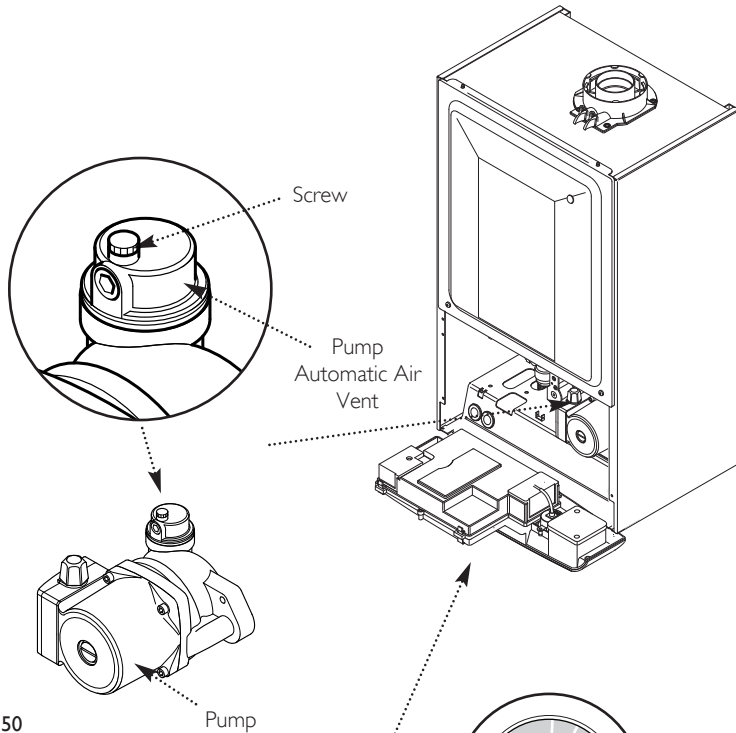

Fig. 50
- Open the screw on the automatic air vent on the pump body (Fig. 50).